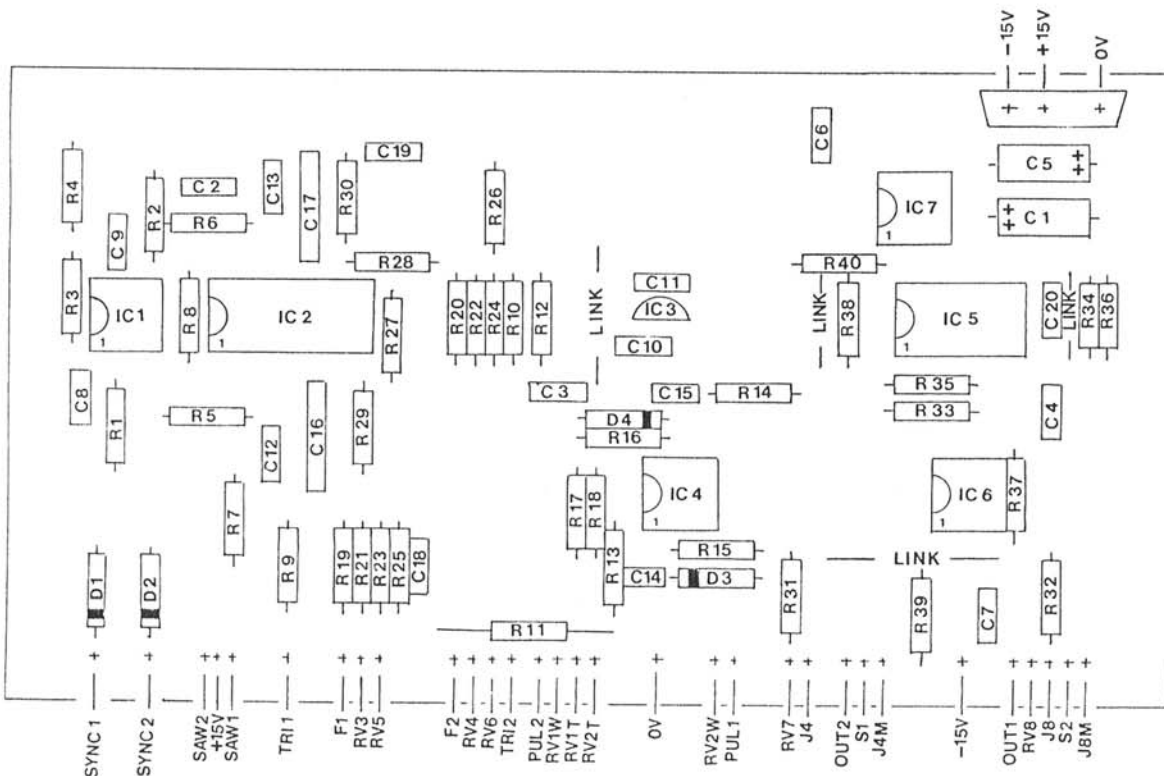
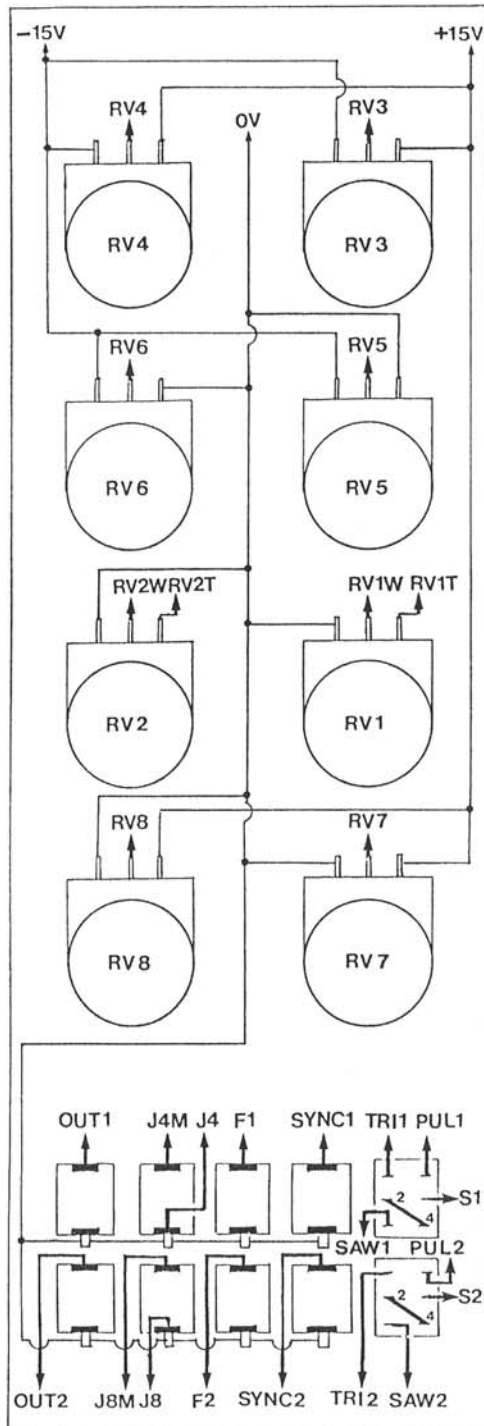

FIGURE 3. 80-19 PCB COMPONENT LAY-OUT
FIGURE 4. 80-19 PANEL WIRING
3. DAMPED. The objective of this mode is to more closely simulate the piano envelope which has a sharp attack, a brief initial decay, a long release and finally a very short release as the damper is applied to the string. This ADRR envelope is illustrated in Figure 4. In this mode release of the key, which is the end of the gate pulse, causes the final release, R 2, to occur. In other words releasing the note has the same action as applying the damper on a piano.
The PCB component lay-out is shown in Figure 3 and is quite straightforward and unambiguous. The best approach to construction is to install components in order of increasing height, e.g., the four wire links followed by diodes, resistors, DIL sockets and so on. The main points to watch at this stage are the orientation of the IC's, diodes, the electrolytic capacitors C1 and C5 and the -5V regulator but all of these are clearly shown in Figure 3. One other point to observe is the location for C8 and C9 which have holes to accommodate other sizes of capacitors. Ensure that C8 and C9 are installed such that they bridge over the gap, i.e., use the holes nearest IC 1.
In comparison with many other modules there is quite a lot of wiring and the connections are shown in Figure 4. The letters, etc., shown in this diagram indicate that a wire must be taken from that point to the PCB having the same identification mark -
refer to Figure 3 for the latter. Thus 'RV1W' shown on RV1 in Figure 4 is wired to 'RV1W' on the PCB as shown in Figure 3. Keep the wires neat and as short as possible and 1/0.6mm wire is recommended since it enables the wire to be neatly moulded to shape. The use of several colours will assist with subsequent checking.
The jack sockets illustrated in Figure 4 are the type supplied by Digisound Limited. The top connecting tab is the connection made when a jack plug is inserted while the lower connection is broken on insertion of a plug. There is also a ground tab underneath the socket and we recommend these are connected to the 0V line so that the module may be used with equipment which may be separately powered.